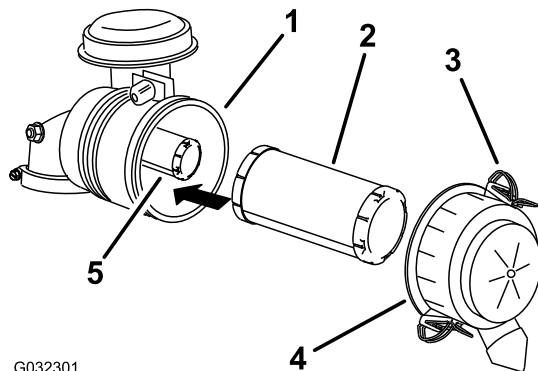

Figure 38
3. Release the latches on the air cleaner and pull the air-cleaner cover off the air-cleaner body (Figure 38).
5. Gently slide the primary filter out of the air-cleaner body (Figure 38).
2. If you are replacing the inner filter, carefully slide it into the filter body (Figure 38).
3. Carefully slide the primary filter over the safety filter (Figure 38).
4. Install the air-cleaner cover and secure the latches (Figure 38).